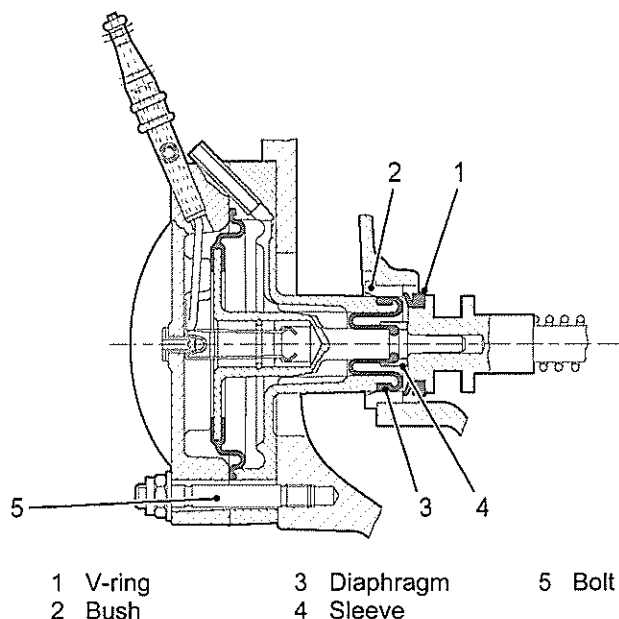

Fig 9 Differential lock actuator
5.20.2 Smear new seal rings with Loctite 574, then refit with actuators (see Fig 9).